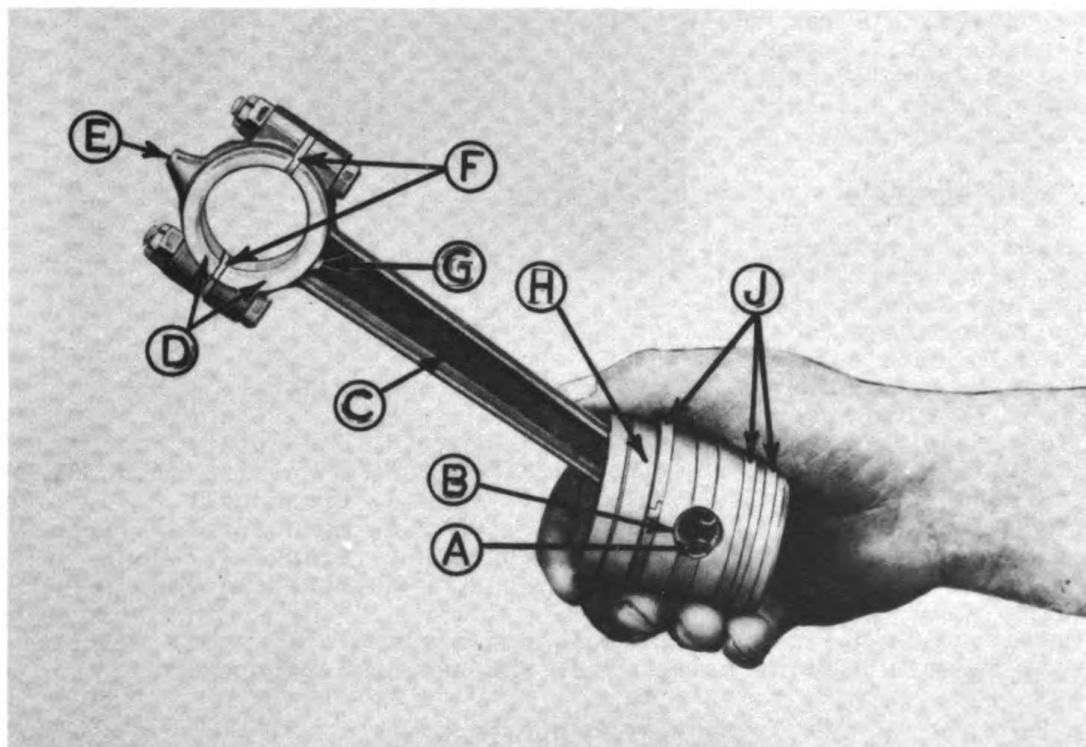

FIGURE 17
Piston pins used on all Kohler plants are so fitted to be full floating; the hardened ground steel pin is fitted to the bronze bushing in the upper end of connecting rod. Tension should be such, that when the pin is clamped in a vise with connecting rod attached, the weight of the rod should be sufficient to allow the rod to drop gradually. The same test is applied when fitting pin in piston as illustrated in Fig. 17.
Method employed to retain piston pin in piston is by spring steel retainers, which are locked in grooves located in the piston. See Fig. 17 (A). After pistons are assembled to connecting rods, they should be lined up with the rods, so they will be parallel with cylinder walls when connecting rod bearings are tightened.